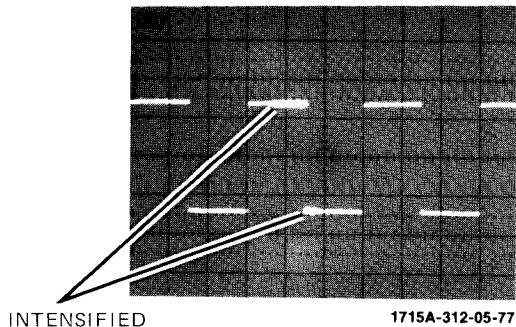

Figure 4a. Normal Display with Intensified Area
4. Adjust TIME INTERVAL STOP **18** until the intensified portion of the trace is over the display segment you wish to investigate. This is demonstrated in figure 4a.